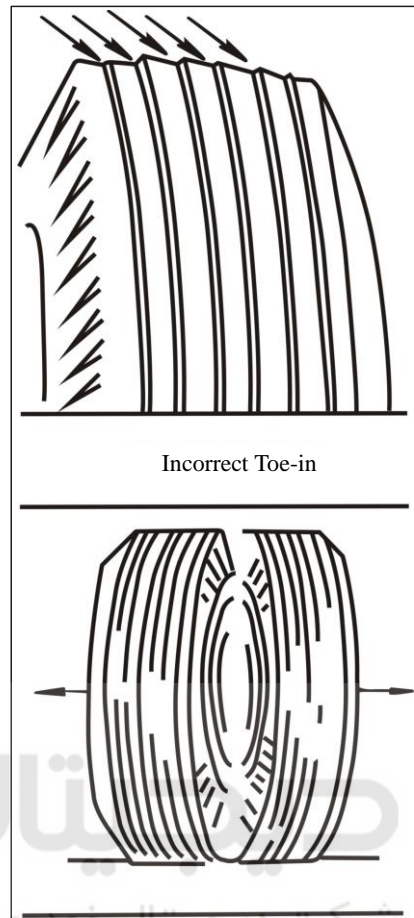

Figure 4-77 Jagged Wear of Tread
(1) Failure symptom: Jagged wear occurs on tread from inside to outside, or from outside to inside, as shown in Figure 4-77.